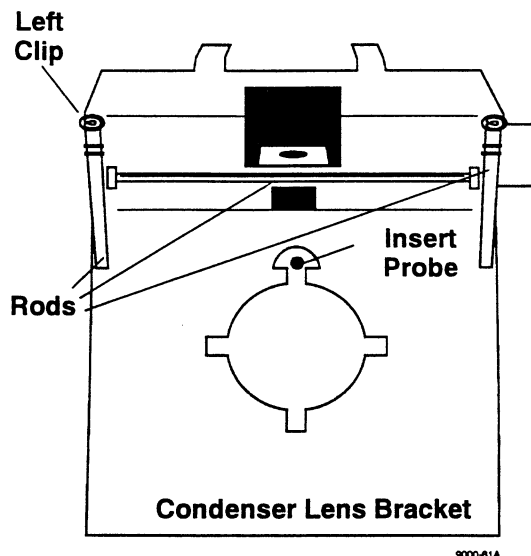

Figure 5-20. Single Lamp Socket
8. To replace the lamp socket, remove the left clip. Figure 5-20.
9. Remove the rods. Figure 5-20.
10. Remove the condenser lens bracket. Figure 5-20.